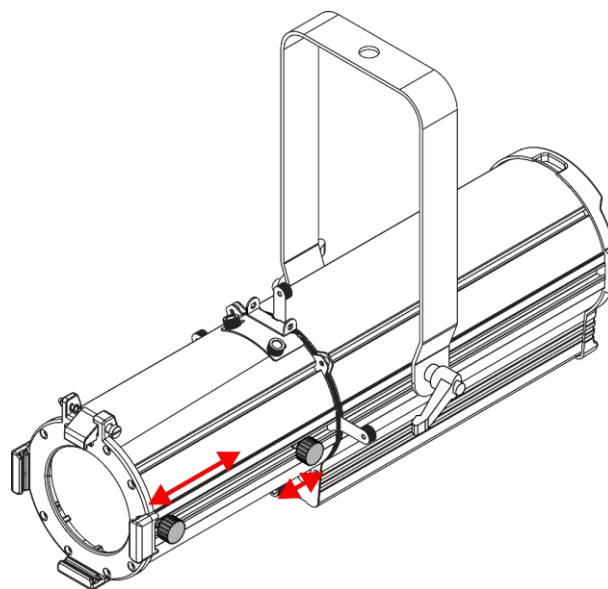

Fig. 11
- 01) Turn the **focus control (04)** and the **zoom control (05)** counterclockwise to loosen them.
- 02) Slide the controls forwards or backwards to achieve the desired beam angle (see Fig. 11).
- 03) Once the fixture is focused, turn the **focus control (04)** and the **zoom control (05)** clockwise to tighten them. Do not overtighten them.